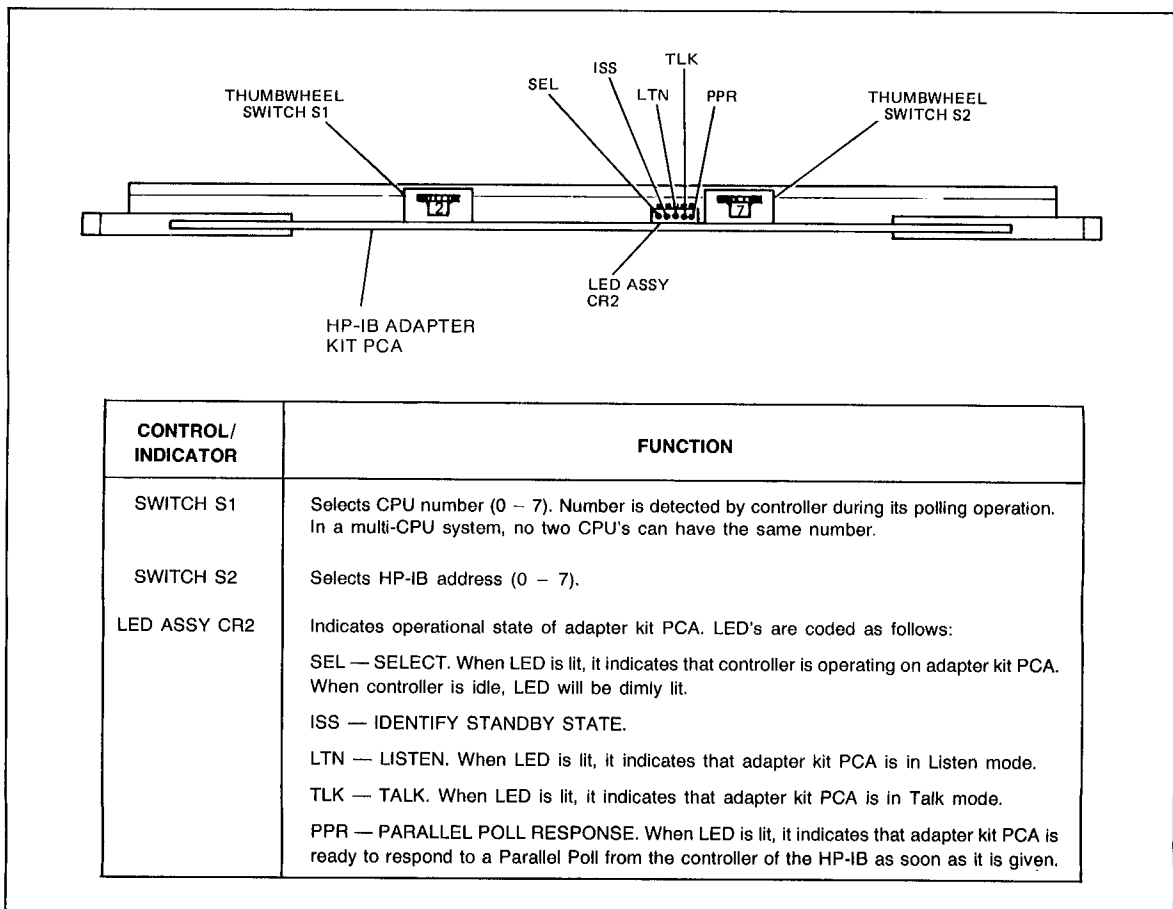

Figure 2-4. Adapter Kit PCA (12745-60010) Controls and Indicators
- E. Controls and Indicators -- See figure 2-4.